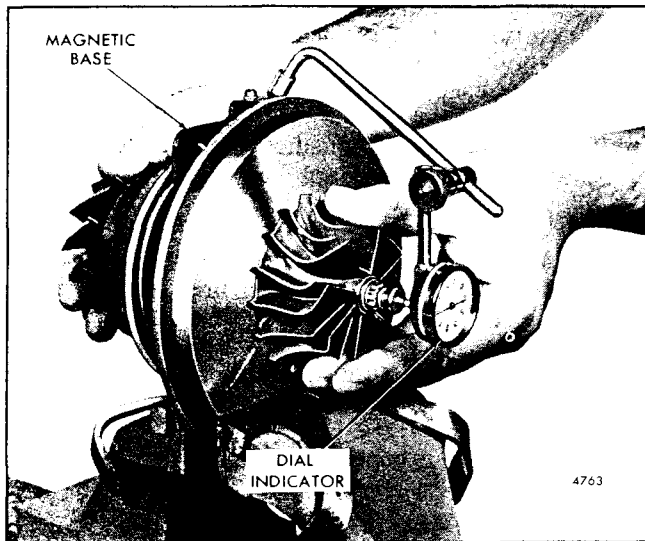
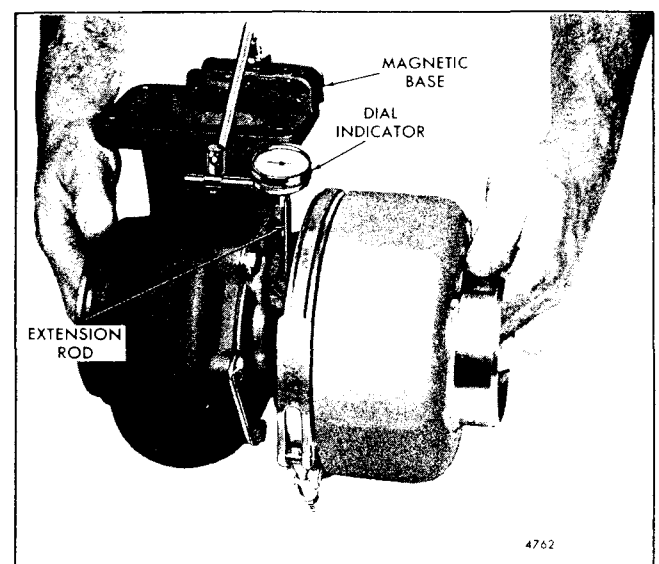

Fig. 7 - Checking Bearing Axial End Play
Fig. 8 - Checking Shaft Radial Movement
- Clamp the center housing assembly in a bench vise equipped with soft jaws as shown in Fig. 7.
16. Position the turbine housing (6) against the center housing (26) and secure it in place with four clamps (5), four lockplates (4) and eight bolts (3). Tighten the bolts to 160-190 **lb-in** torque. Bend the lockplate tabs up against the flat on the bolt heads.
17. Position the compressor housing (2) against the center housing (26) and secure it in place with the "V" band coupling (1). Tighten the nut on the coupling to 30-45 **lb-in** torque.
- Position the magnetic base J 7872-2 with the swivel adaptor J 7872-3 on the flat surface of the turbine housing inlet flange as shown in Fig. 8.